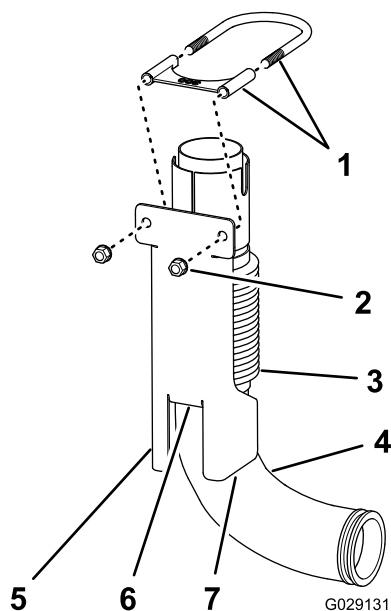

Figure 13
1. Align the bellows-alignment jig to the new turbocharger-exhaust pipe with the short tab of the jig below the bellows (Figure 13).
2. Assemble the guillotine clamp that you removed in step 2 of Removing the Muffler and Heat Shield \(page 4\) to the bellows-alignment jig (Figure 13).
3. Align the left leg of the jig to the outside radius of the bend in the pipe and the right leg to the inside radius of the bend as shown in Figure 13.